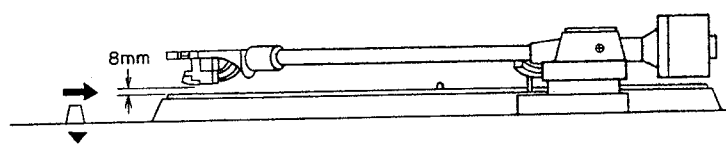

Fig. 17
3. Put a record on and set the elevation control to ∇ . Adjust screw (a) until there is an 8 mm gap between the tip of the stylus and the surface of the record. (Refer to Figs. 17, 18)